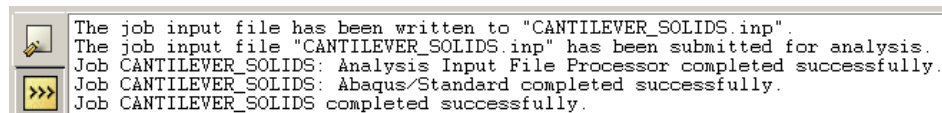

Figure 31. Abaqus Progress
- The model will now be submitted for analysis by Abaqus and the progress can be viewed in the status window at the bottom of the screen (Figure 31).